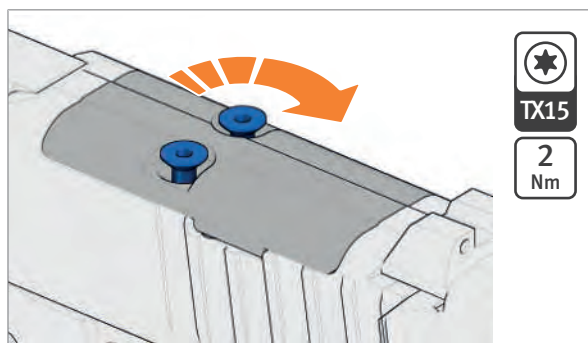

Fig. 37: Tighten screws
4. Tighten screws until the torque is reached (*Fig. 37*).